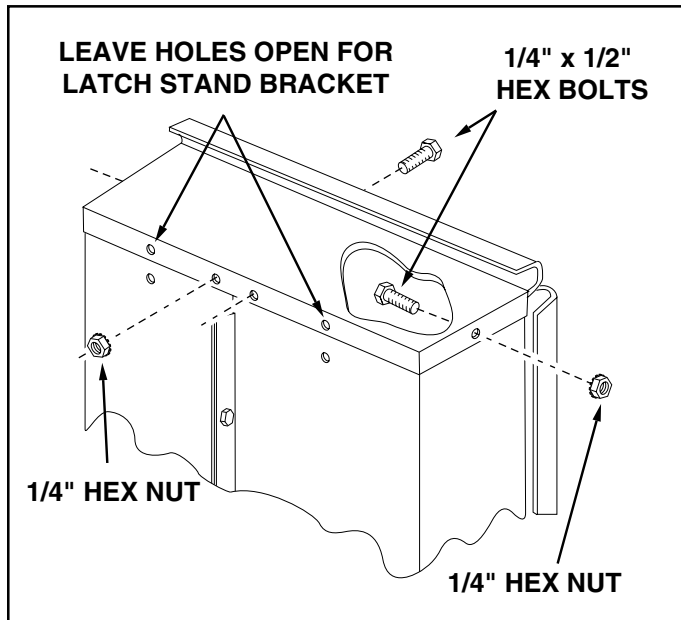

FIGURE 5
9. Assemble the front panel over the end of the cart using four 1/4" x 1/2" hex bolts and 1/4" hex nuts as shown in figure 5. Leave two holes shown in figure 5 empty in the bottom of the panel. Pull the cart body halves together and **tighten** the two bolts in the bottom of the front panel, then **tighten** the bolt in each side.